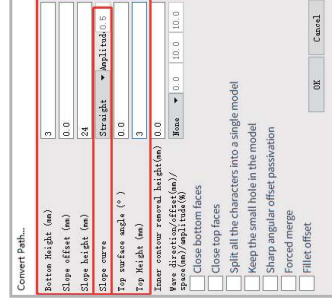

Figure3-02
2. Pop up the conversion path option, select "straight line" for the slope curve, input the font height according to your needs, and click OK (as shown in Figure 3-02).